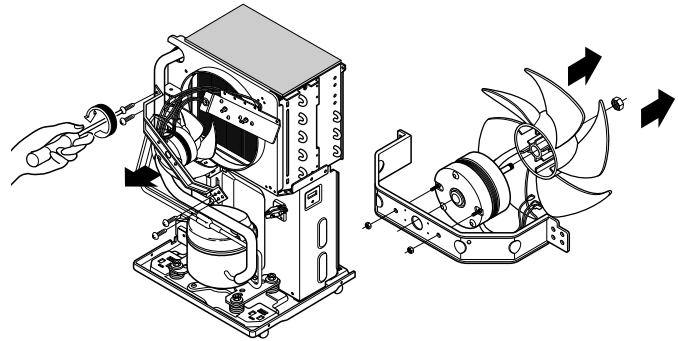

Figure 11
3. Remove 4 screws which fasten the motor mount. (See Figure 11)
4. Remove 2 nuts which secure the motor. (See Figure 11)
5. Remove one nut which fastens the fan. (See Figure 11)
6. Remove the fan forward carefully like, as shown by the arrow. (See Figure 11)